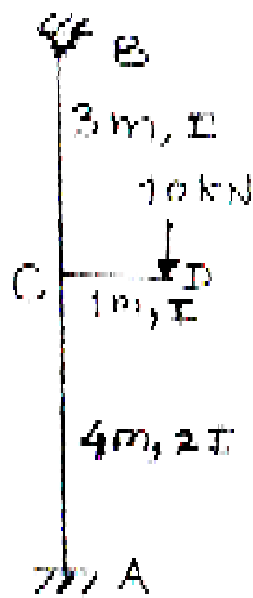

Fig. 2
2. Analyze the column ACB, fixed at support A and hinged at support C, and loaded as shown in **Fig. 2**, using **Slope Deflection Method**. Draw BMD and SFD. Take I of members as shown.
4. a) Analyze the column ACB, fixed at support A and hinged at support C, and loaded as shown in **Fig. 2**, using **Flexibility Matrix Method**. Draw BMD and SFD. Take I of members as shown. 12